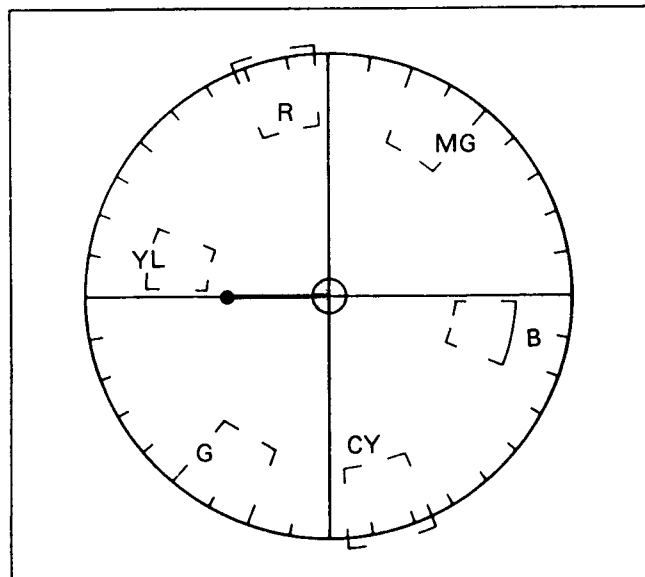

Fig. C28
- (1) Set the White Balance Switch to "INDOOR" side.
- (2) Connect the jumper wire among TP511, TP512 and TP513 on process C.B.A. to cut the R-Y, B-Y feed back loop.
- (3) Aim the camera at the White Chart.
- (4) Set the diffusion plate on to surface of AWT sensor and taping around sensor with black tape so that any light is not entered to sensor from the gap between sensor and diffusion plate.
- (5) Adjust the VR525 and VR526 so that the color vectors move to center of screen on vector scope. (Refer to Fig. C28.)